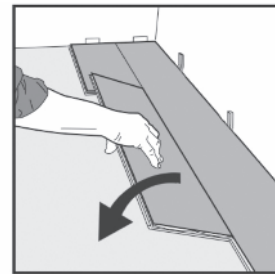
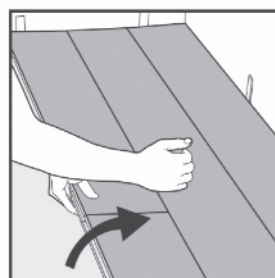

Fig. 5
Fig. 6
- Install the second row by inserting the tongue edge of the planks into the groove edges of the first row at a 45° angle and then folding the plank down until it lays flat on the subfloor (Fig. 5). Ensure that the edges of all boards meet tightly by applying equal pressure while rotating the board down. You cannot force the boards together. If the boards are not lying flat, they were not aligned correctly during engagement. Disengage the planks by lifting the entire row and sliding the end joints apart (Fig. 6 & 7). Try again until all seams are tight.